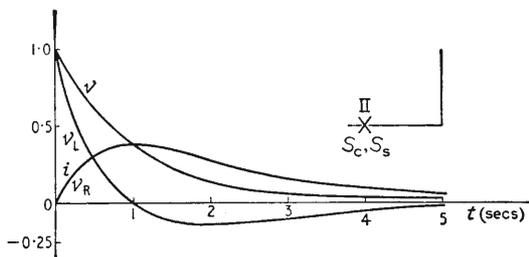

Fig. 9. Corresponding to Fig. 8 but with source and circuit frequencies equal, achieving perfect (but imaginary) resonance.
Doubling the rate of  $v$  die-away (i.e., doubling its complex frequency) so that it comes into exact resonance with the circuit, and using (5) to plot the results, we get Fig. 9, which is remarkably un sensational. So far from the response being infinitely large, it is actually less than before, owing to the shorter duration of the excitation. Otherwise, there is no significant difference, although now the rise from zero  $i$  is due to the factor  $t$  in (5), not present in (3).